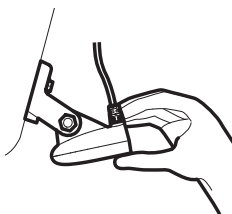
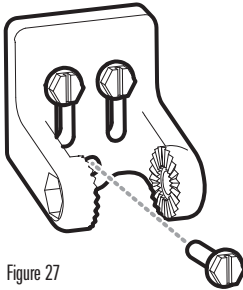

Figure 21
Figure 27
- Adjust the initial angle of the transducer from back to front by rotating the transducer until the side seam on the transducer is almost parallel with the bottom of the boat, one click at a time in either direction (Figure 21 and 22).
8. Re-position the transducer bracket against the transom of the boat, then hand-install all three screws. Make sure that the transducer location has not changed, then fully tighten all three mounting screws (Figure 27). **Hand tighten only!** Re-install the transducer to the mounting bracket, making sure to assemble the ratchets in the same location they had before. (See Figures 18a - 18d and Figure 21 - 22). If you have performed the preceding procedures correctly, the transducer should be level and at the right height for optimal operation.